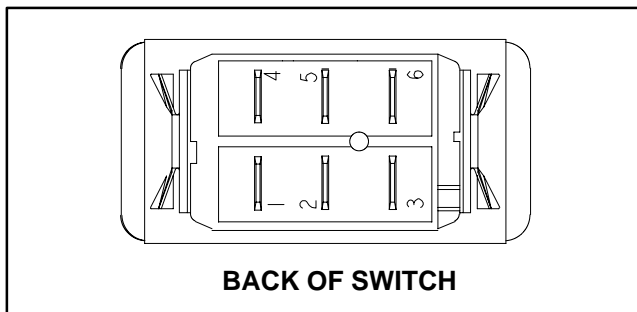

Figure 29
4. With the use of a multimeter (ohms setting), the switch functions may be tested to determine whether continuity exists between the various terminals for each switch position. The switch terminals are marked as shown in Figure 29. The circuitry of the switch is shown in the chart below. Verify continuity between switch terminals. Replace switch if testing identifies a faulty switch.